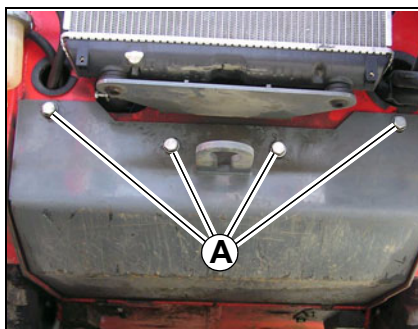

Fig. 12: Chassis cover
- Remove the chassis cover (fig.12):